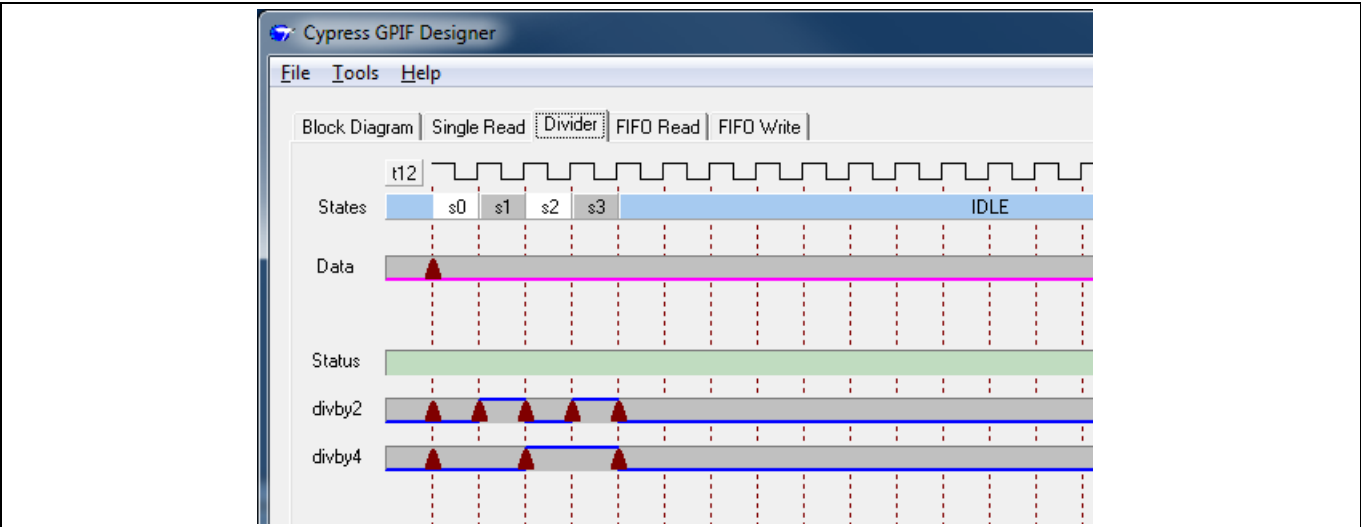

Figure 17 Div by 2 and Div by 4 Waveforms
11. In the divby4 waveform, click on the second and fourth clock lines. Your screen should appear as shown in Figure 17.
When the Figure 17 state machine starts, it will move from state s0 to s1 to s2 to s3 on each rising clock edge, and then stop at IDLE. You need a way to make it repeat; in other words, s3 should always branch back to s0. To do this, add a ‘decision point’ in the Status line.